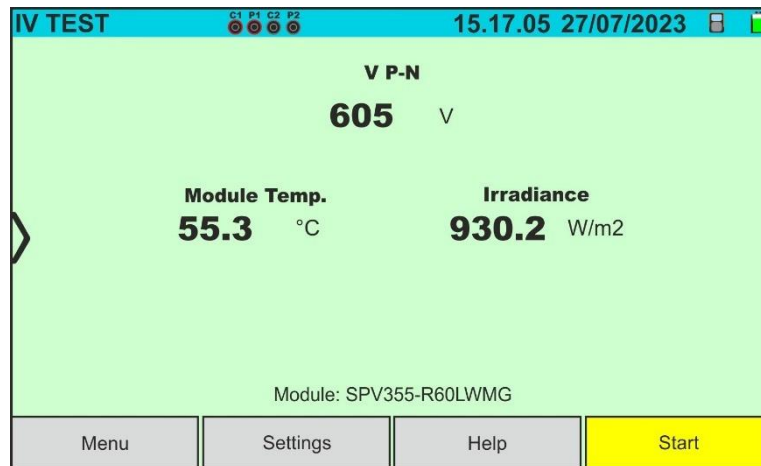

Fig. 40: Initial I-V curve measurement screen on Monofacial modules
4. In the case of **Monofacial** modules, the Fig. 40 screen is present on the display. The following parameters are shown: